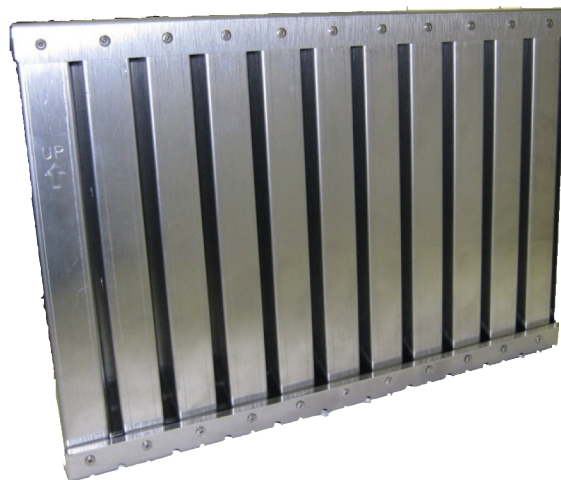

Figure 3-2-2
6. Replace the filters or Extractors. Note: Filters and Extractors must be installed with the openings running vertical as shown in Figure 3-2-2. Gaylord XGS Extractors have an arrow stamped on the face designating "UP".